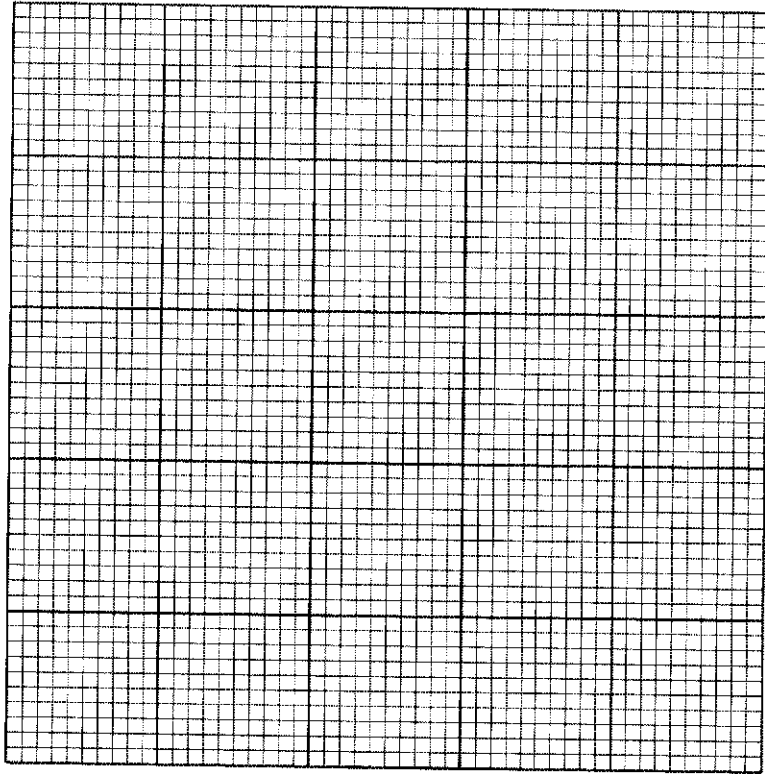

Fig. 2.3
- (i) Draw a bar chart of the data in Table 2.3 on the grid in Fig. 2.3. Each bar should be separated for each type of pathogenic bacterium.